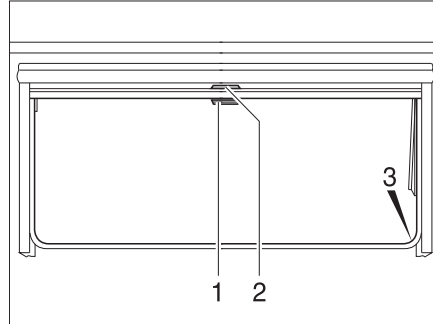

Fig. 74 Hinged window
Closing: ■ Pull blind at the handle (Fig. 74,2) downwards. If the blind is to be completely closed, it is suspended into the locking devices (Fig. 74,3) situated on both sides of the window frame.
Opening: ■ If the blind is completely closed: Press handle (Fig. 74,2) downwards and, at the same time, tilt it slightly inward. The blind can be taken out of the locking devices situated on both sides of the window frame.
■ If the blind is in an intermediate position: Pull the handle (Fig. 74,2) slightly downwards until the locking device releases.
Closing: ■ Pull insect screen at the handle (Fig. 74,1) down and hang it into the locking devices (Fig. 74,3) situated on both sides of the window frame.
Opening: ■ Press handle (Fig. 74,1) downwards and, at the same time, tilt it slightly inward. The insect screen can be taken out of the locking devices situated on both sides of the window frame.